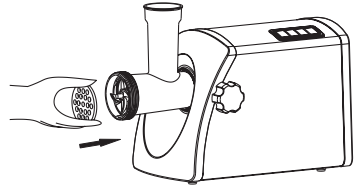

Figure 5.
4. Place the desired cutting plate next to the cutting blade, fitting protrusions into the slot (fig. 5).